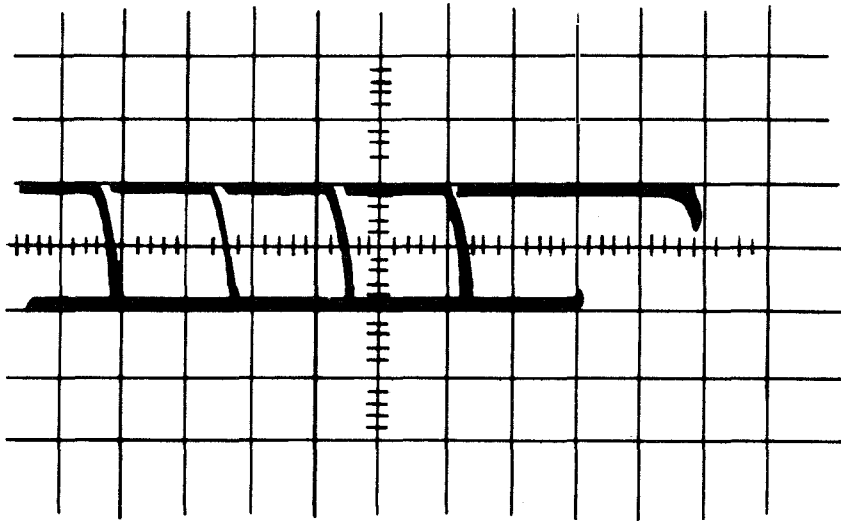

Figure 5.2 Waveform Method II
2. Insert a test tape containing alternate R's and Y's in the TD. Start the TD and adjust the oscilloscope controls to obtain a stationary display including a complete character having marking and spacing levels arranged symmetrically with respect to its base line. A sweep rate of approximately 5 ms per cm will display one character. A display similar to that shown by Figure 5.2 should be obtained.